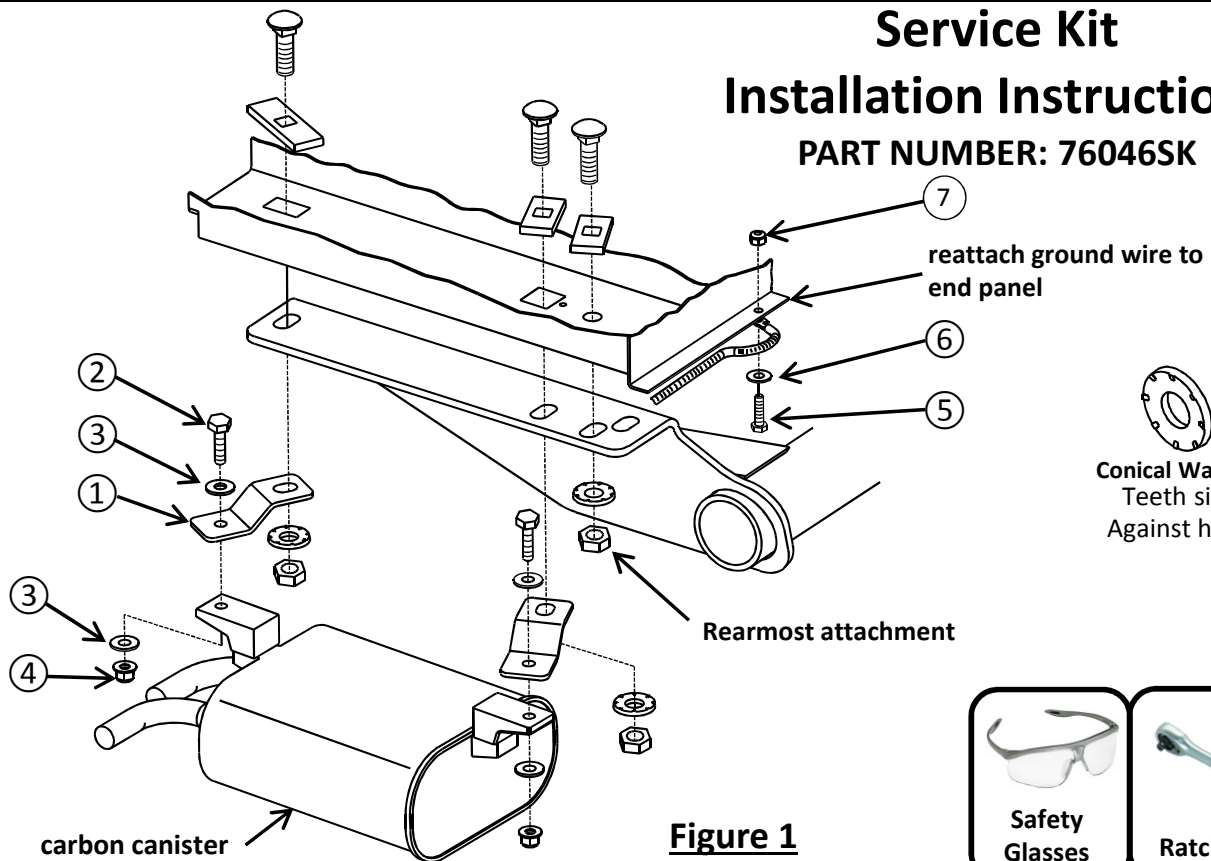

Figure 1
- A. **Lower carbon canister** – Using a 10mm socket, remove the (2) bolts holding the canister to the bottom of the driver's side frame. Return bolts to vehicle owner.
- C. **Relocate ground wire** – Using a socket and end wrench, reattach the ground wire to the existing hole on end panel with the 1/4" hardware provided. **See Figure 1.**
- D. **Attach mounting brackets** – Using a 13mm socket and end wrench, loosely attach the (2) mounting brackets to the carbon canister in orientation shown using M8 hardware provided. **See Figure 1.**